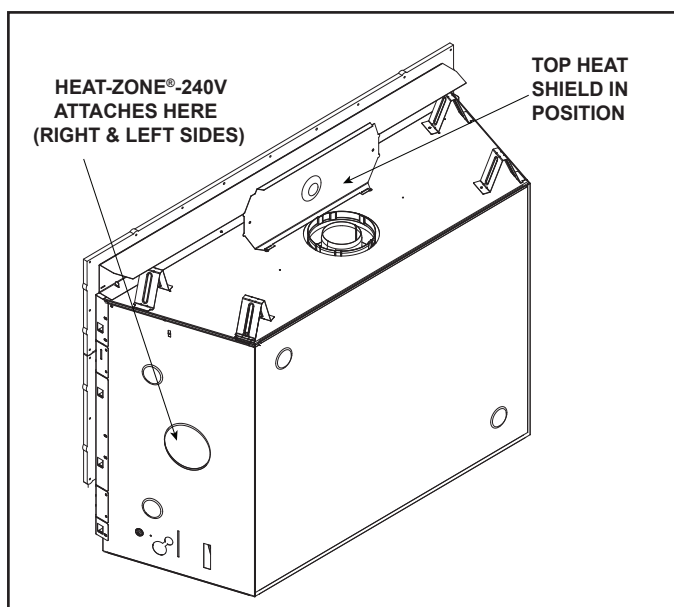

Figure 6.2 Top Heat Shield in Position and Heat-Zone®-240V Locations
2. Fold up top heat shield to 90 degrees as shown in Figure 6.2.
- Locate the Heat-Zone®-240V ports on the left and right sides of the appliance. Either one or two Heat-Zone®-240V Kits may be installed. See Figure 6.2. Remove the knockouts from the appliance with a tin snips.